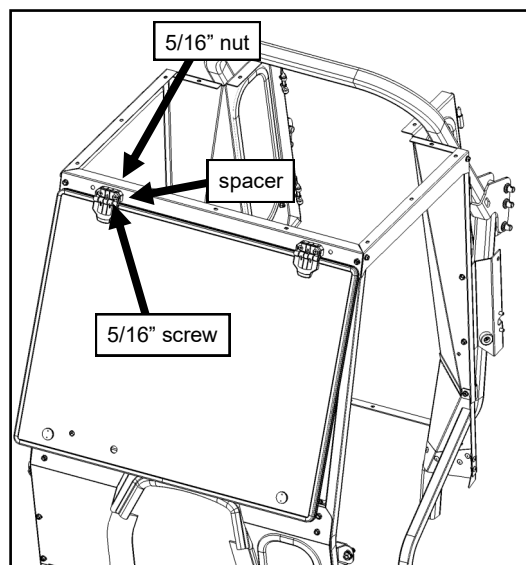

Fig. 12.1 (Install Windshield)
- 12.1 With assistance, set the windshield up to the A-pillars and secure it to the roof using the hinge spacers and hardware. See Fig. 12.1. Leave hardware loose.